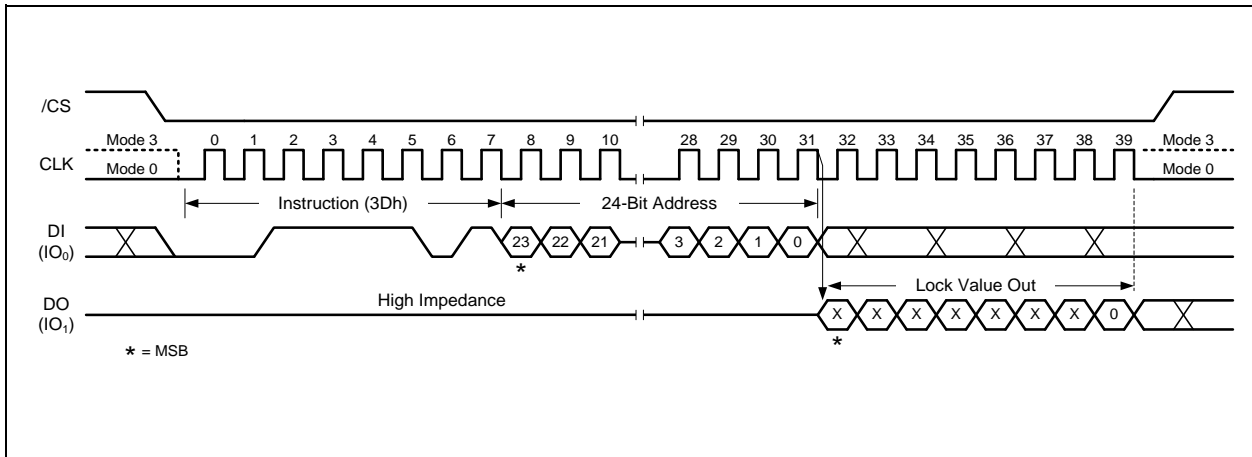

Figure 37. Read Block Lock Instruction
To read out the lock bit value of a specific block or sector as illustrated in Figure 37, a Read Block/Sector Lock command must be issued by driving /CS low, shifting the instruction code "3Dh" into the Data Input (DI) pin on the rising edge of CLK, followed by a 24-bit address. The Block/Sector Lock bit value will be shifted out on the DO pin at the falling edge of CLK with most significant bit (MSB) first as shown in Figure 55. If the least significant bit (LSB) is 1, the corresponding block/sector is locked; if LSB=0, the corresponding block/sector is unlocked, Erase/Program operation can be performed.